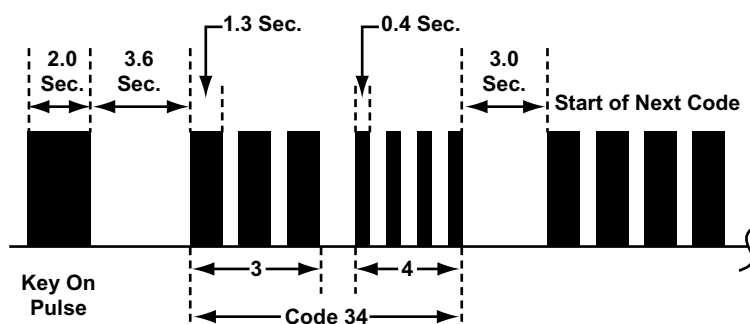

Figure 8-30 Honda ABS Code Type 04
- Type 04, see Figure 8-30 and Table 8-7 on page 77